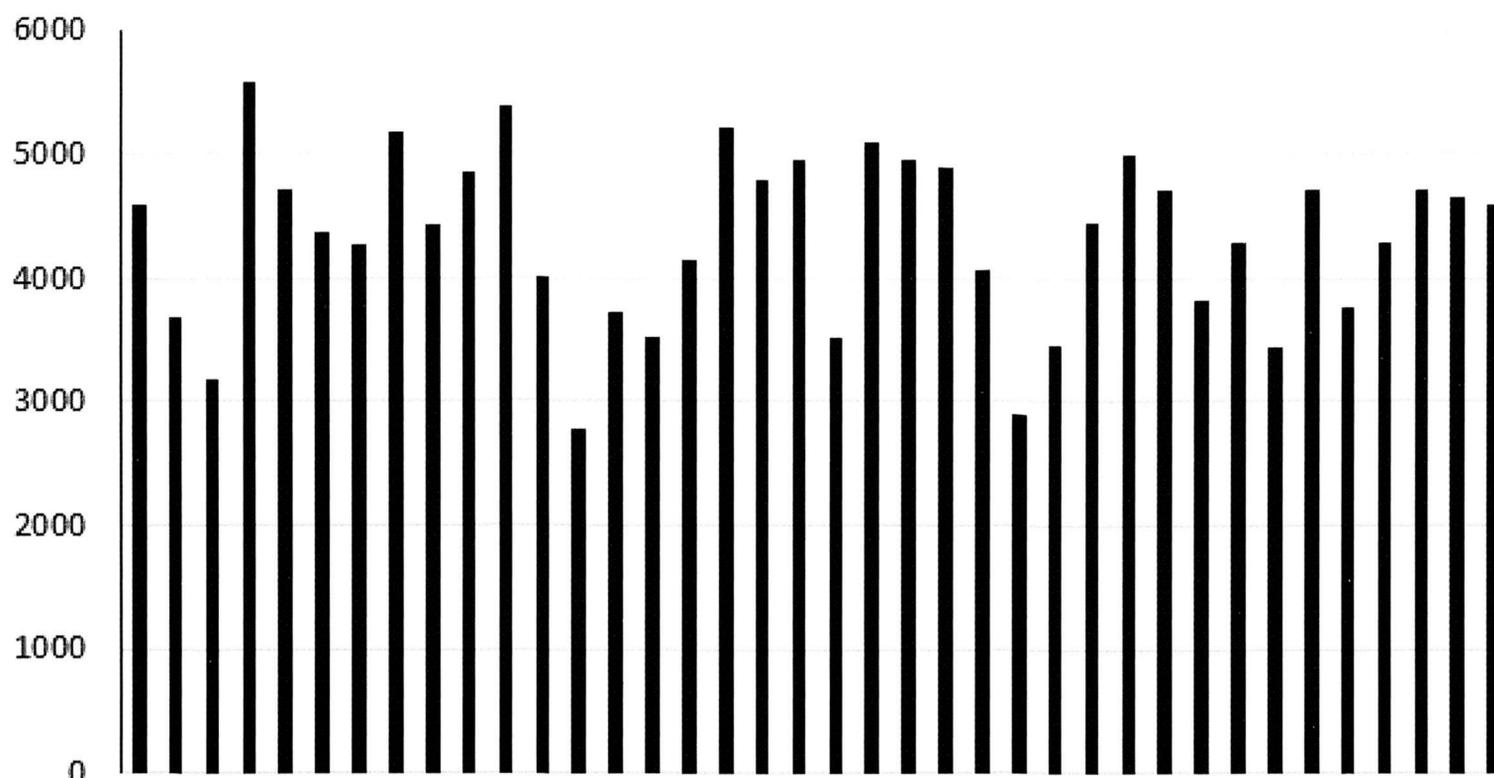

Figure 1. Daily pounds of milk per robot.
- Average milk production per robot per day was 4,325 lb (Figure 1); it has been suggested that greater than 4,500 lb is best. The range was from 2765 lb to 5568 lb per robot. Five herds averaged over 5000 lb per robot daily for over a year.